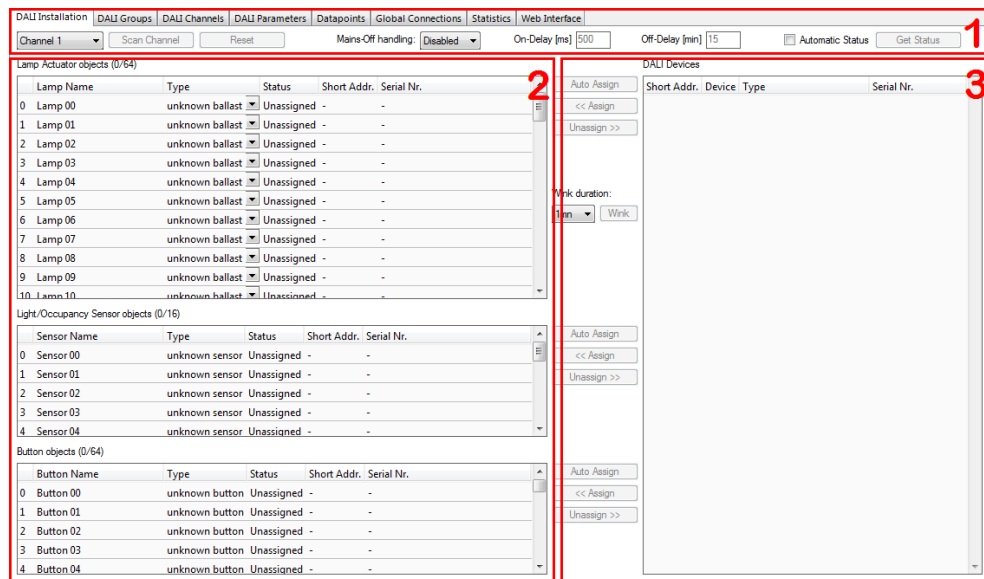
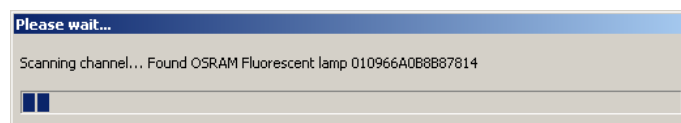

Figure 168: DALI Installation tab.
Figure 169: DALI channel scan progress.
The DALI Installation tab is shown in Figure 168. It is used to scan a DALI channel and assign DALI devices to Lamp Actuator, Sensor objects, and Button objects. The dialog is divided into three sections:
- The channel selection and functions section (number 1 in Figure 168).
- The DALI network database with the device assignment (number 2 in Figure 168).
- The DALI network scan results (number 3 in Figure 168).
- The **Scan Channel** button starts a scan of the DALI channel. When pressing the button a window showing the scan progress will be shown (see Figure 169). After the scan the devices found will be listed in the DALI network scan results section (number 3 in Figure 168) of the DALI Installation tab.